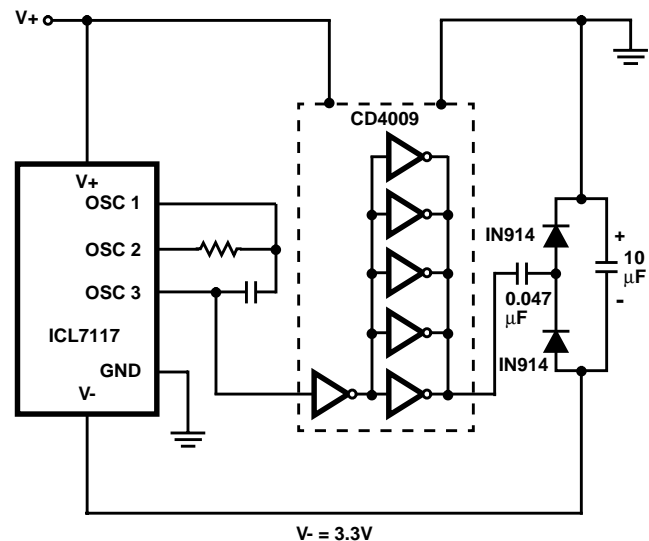

FIGURE 10. GENERATING NEGATIVE SUPPLY FROM +5V
- The ICL7117 is designed to work from ±5V supplies. However, if a negative supply is not available, it can be generated from the clock output with 2 diodes, 2 capacitors, and an inexpensive IC. Figure 10 shows this application. See ICL7660 data sheet for an alternative.